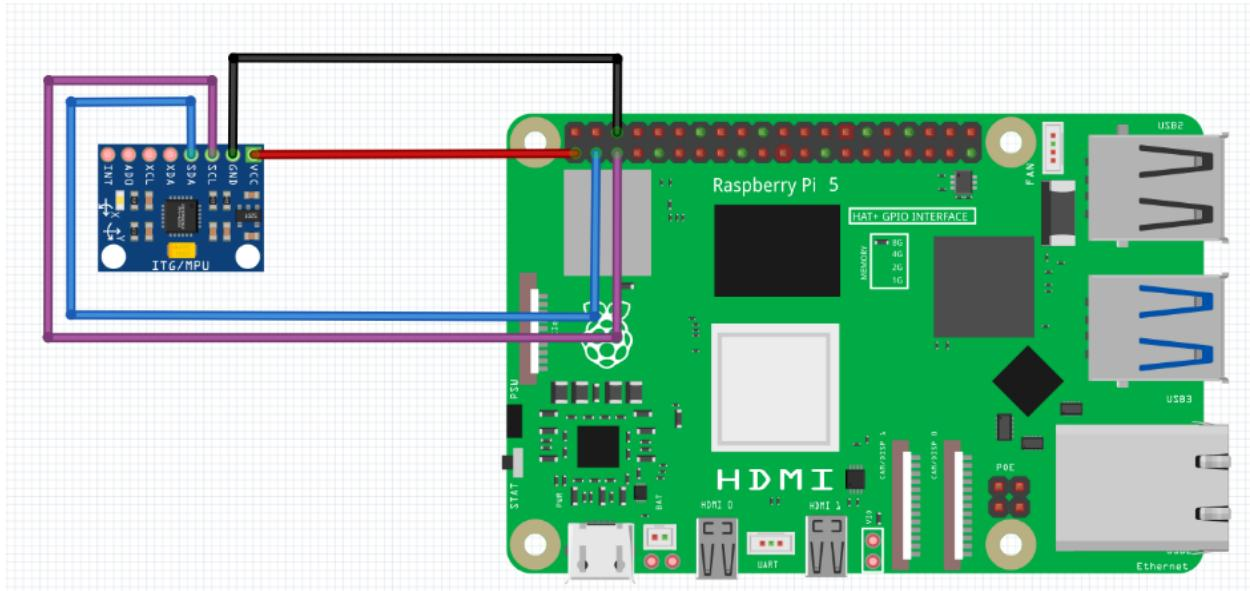
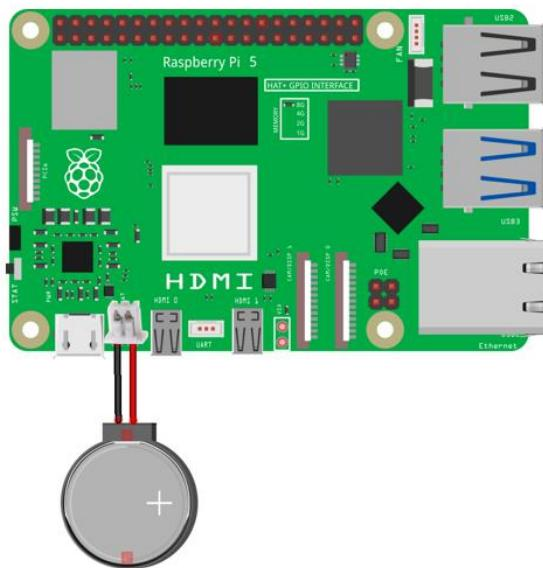
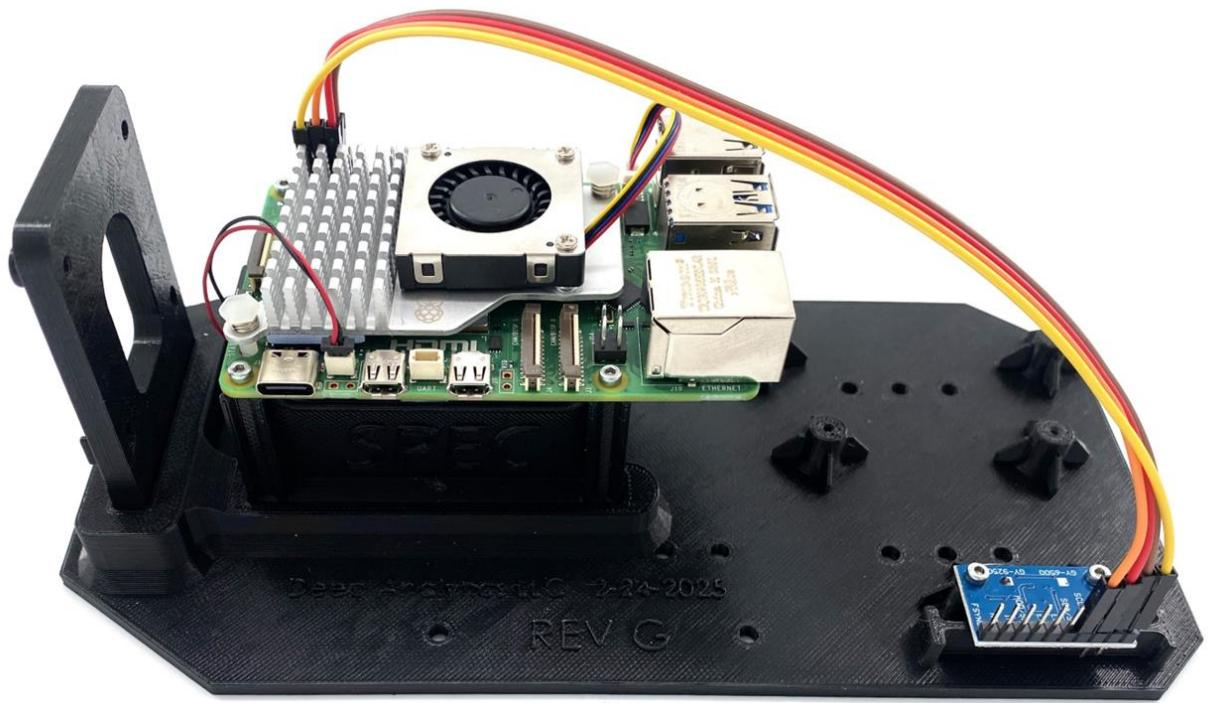

Figure 15. Wiring diagram with IMU.
Figure 17. Raspberry Pi 5 and rechargeable coin battery for RTC.
Figure 23. Connect Pi and IMU.
To properly run the SPEC software, the IMU and camera need to be connected to the Pi. The camera should be plugged into a USB port, and the IMU should be wired with jumper wire as in Figure 15.
The Raspberry Pi 5 includes a real time clock (RTC) module that will keep track of the time that is set in the operating system even if the unit is disconnected from power. The Pi will retrieve the correct time when it connects to the internet. You must plug a small coin battery into the Pi for the RTC to work. In the bill of materials, the official rechargeable battery with the appropriate 2-pin JST plug is listed. It is not recommended to use a non-rechargeable battery as the current consumption of the RTC module is high and will result in a short life for the battery. Figure 17 shows where to connect the battery, just to the right of the USB-C power connector.
3. Screw in the Pi and IMU (two screws for IMU four screws for Pi) and connect them using the jumper wires (Figure 15), also plug in the RTC battery as shown in Figure 17. (Figure 23).